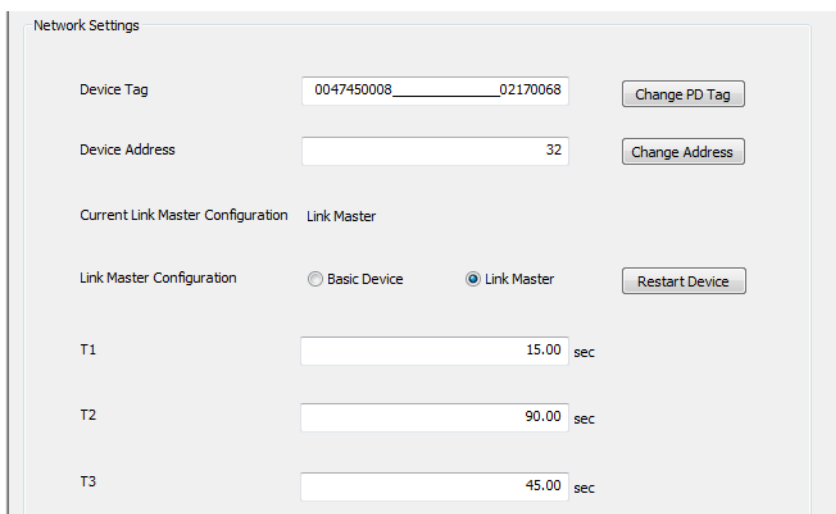

Figure 175 – Network Settings
7. Select **Identification > Network Settings** (Figure 175). To access this tab you must be have *Planning Engineer* level privileges.